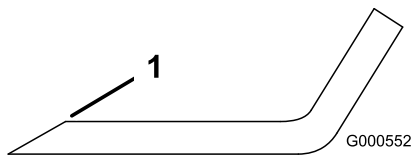

Figure 61
1. Use a file to sharpen the cutting edge at both ends of the blade (Figure 61).
**Note:** If the blade is not balanced, file some metal off the end of the sail area only (Figure 61).